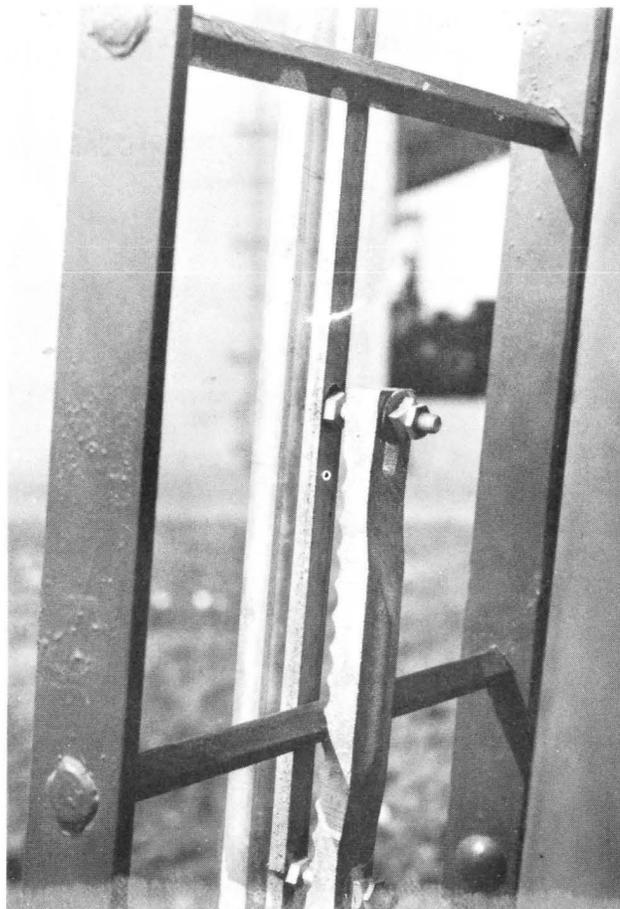

Fig. 14
3.17 For installation on ladders, the short end of each stud of the B rail attachment is inserted into the back of the carrier rail and then tightened up to the shoulder. The rung clamp is then slipped over the studs, and the washers and nuts installed on the studs. The nuts should be drawn up evenly so that the clamp remains parallel to the carrier rail. ***Do not overtighten.*** A completed installation is shown in Fig. 14.